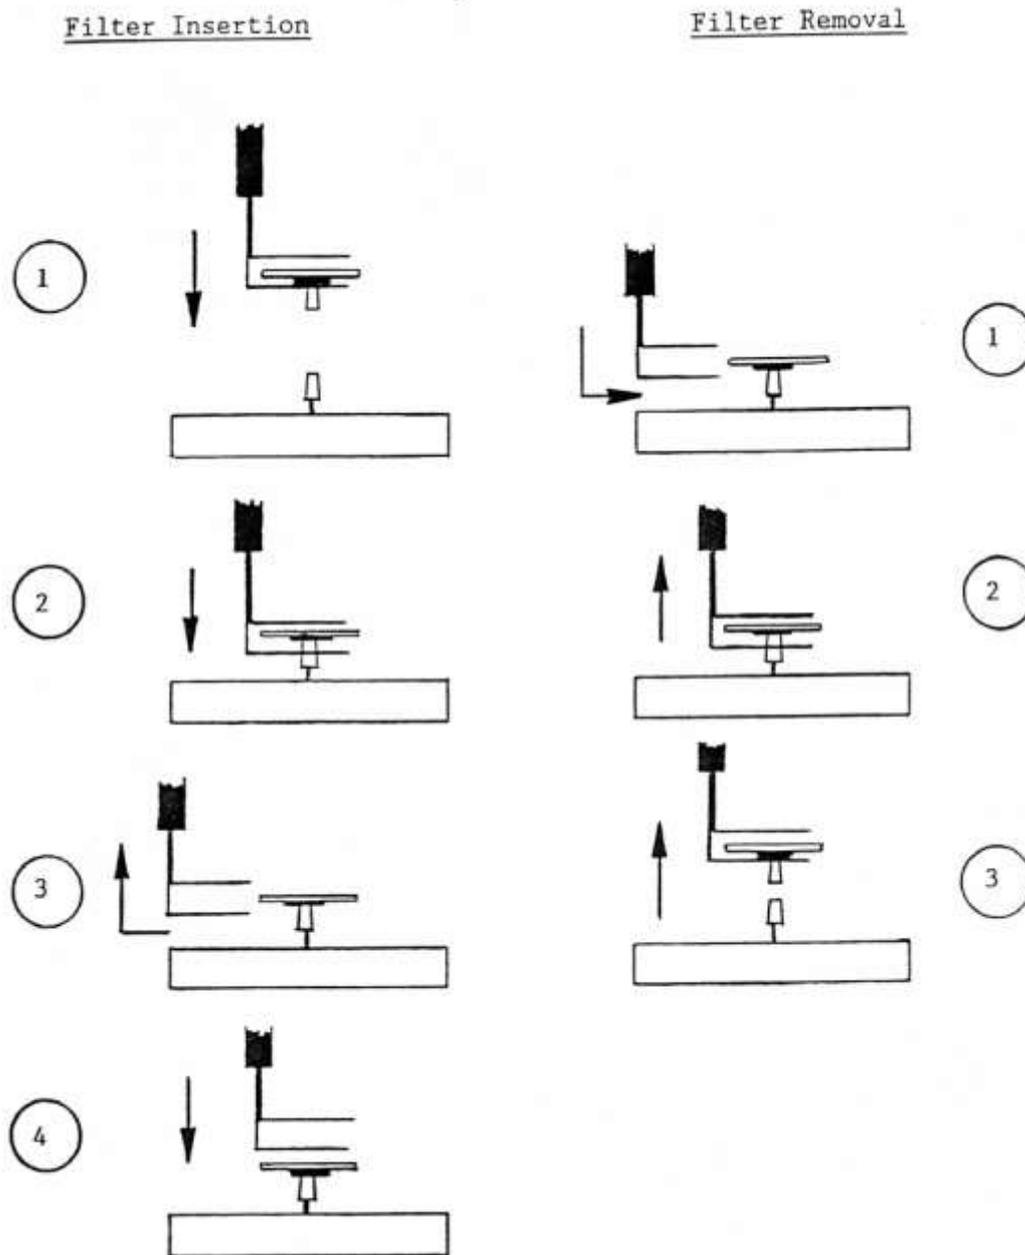

Figure 18-3 TEOM Filter insertion and removal
1. Refer to Figure 18-3 when following the instructions for filter exchange. It is recommended that the TEOM filter cartridge box is stored in the sensor unit of the TEOM analyser so they are pre-conditioned before changing. Inform the QA/QC when the site stock of unused filters gets down to four.